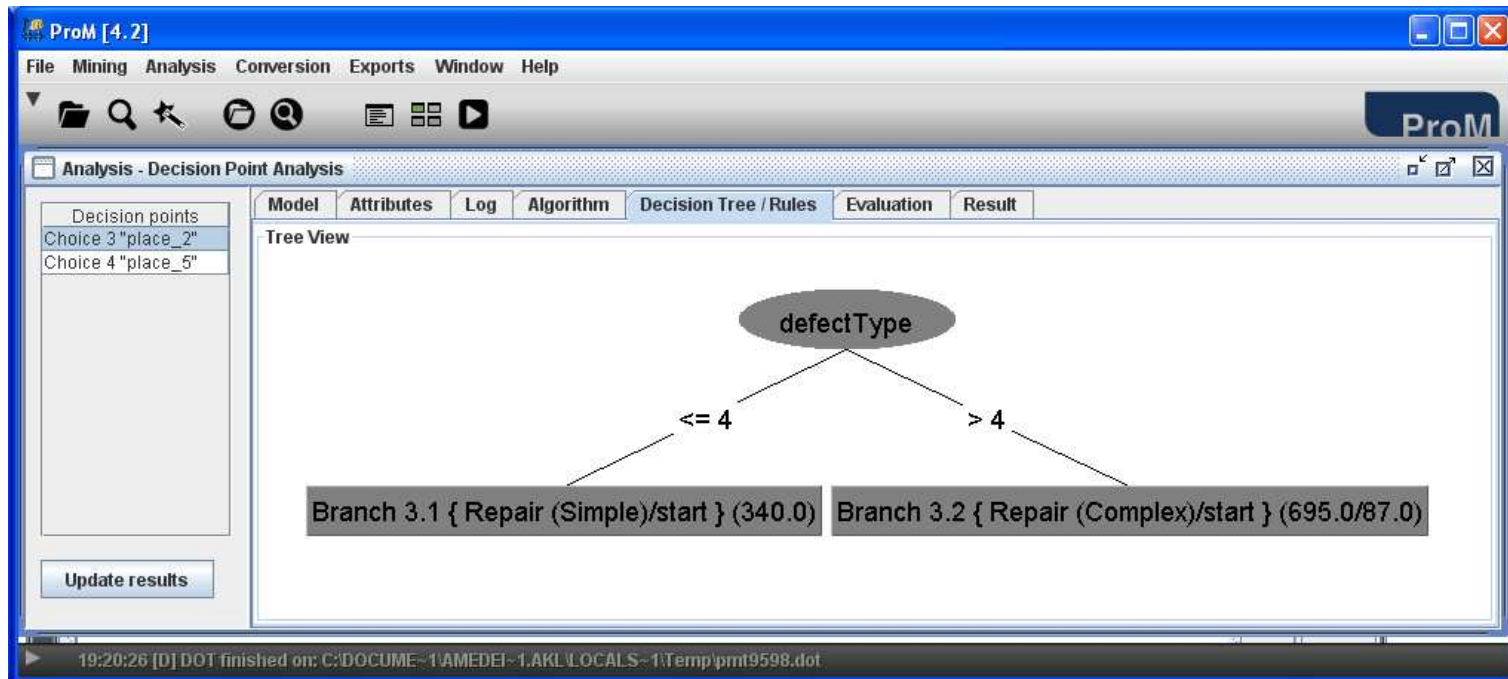

Figure 4.5: Screenshot of the analysis plug-in *Decision Point Analysis: Decision Tree/Rules* tab.
7. Select the tab *Decision Tree/Rules* (cf. Figure 4.5). Remark the text (695.0/87.0) inside the box for the task “Repair (Complex)”. This means that *according to the discovered business rules, 695 cases should have been routed to the task “Repair (Complex)” because their defect type was bigger than 4. However, 87 of these cases are misclassified because they were routed to the task “Repair (Simple)”*. Thus, the automatically discovered business rules describe the conditions that apply to the majority of the cases, but it does not mean that all the cases will fit these rules. Therefore, we recommend you to always check for the results in the tab *Decision Tree/Rules* as well. In our case, these result makes sense because, from the description of the running example (cf. Section 1.3), we know that some defect types can be fixed by both teams.